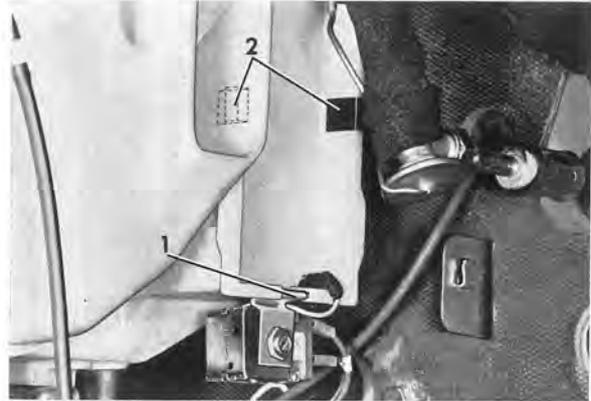

Fig. 8-69. Cover for evaporator
17. Separate the connector (1) for the vacuum hoses and disconnect the vacuum tank hose from the connector.
20. Disconnect the thermostat attachment (1, Fig. 8-69) from the central unit, and both the clamps (2) securing the cover to the evaporator.
- (4). Fit the evaporator in the central unit. Put on the cover and secure it with the two clamps (2, Fig. 8-69), also the thermostat on the opening's lower flange (1). Seal with sealing compound round the evapo-